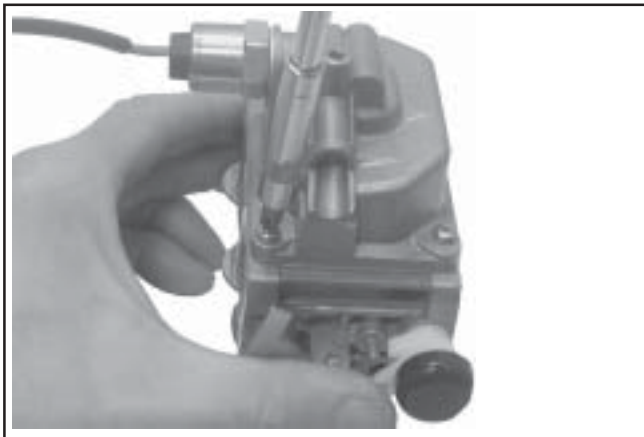

Figure 5-59. Installing Fuel Bowl.
16. When the proper float height is obtained, carefully reinstall the fuel bowl, using new O-Rings onto the carburetor. Secure with the four original screws. Torque the screws to  $2.5 \pm 0.3 \text{ N}\cdot\text{m}$  ( $23 \pm 2.6 \text{ in. lb.}$ ). See Figure 5-59.